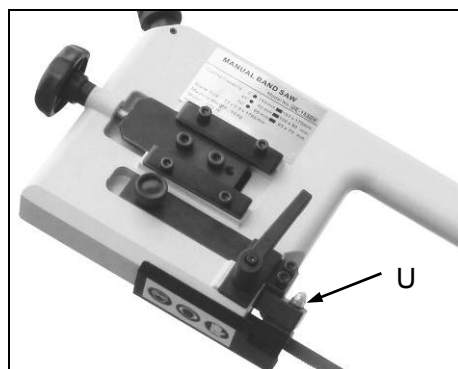

Fig. 9
2. Remove the blade guard by loosening two screws (U) in Fig. 9 on the saw frame.
8. Replace blade cover (V) in Fig.10 and guards Fig.9.